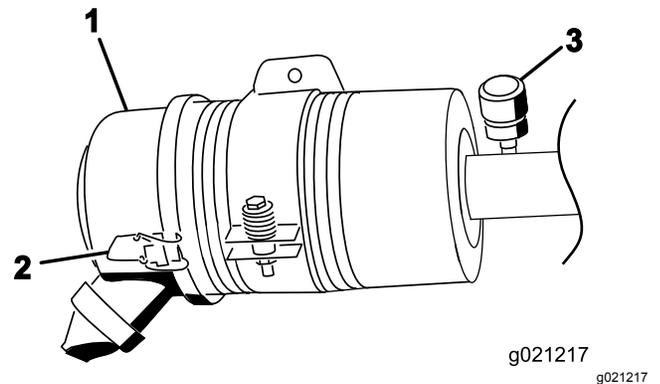

Figure 80
Service the air-cleaner filter only when the service indicator requires it (Figure 80). Changing the air filter before it is necessary only increases the chance of dirt entering the engine when you remove the filter.
2. Release the latches securing the air-cleaner cover to the air-cleaner body (Figure 80).